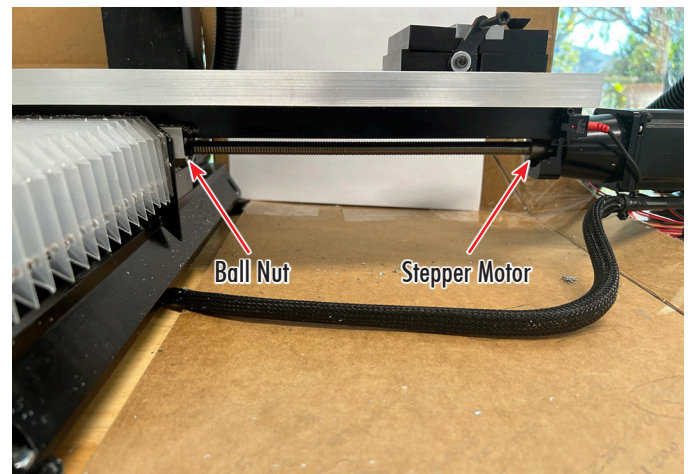

FIGURE 2—Mill X-axis.
- iii. X-axis: Lubricate between the stepper motor and the ball nut (see Figure 2).